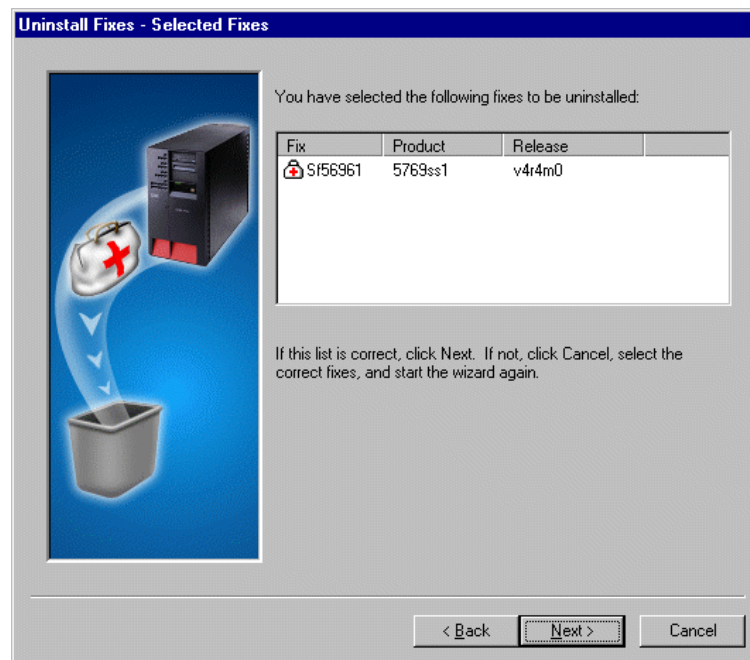

Figure 101. Uninstall Fixes: Selected Fixes window
8. Check that the correct AS/400 system name is shown in this window and click **Next**. The Uninstall Fixes – Selected Fixes window appears as shown in Figure 101.